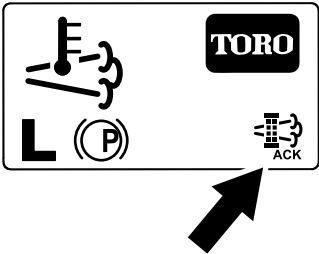

Figure 62
- The InfoCenter displays the home screen and the regeneration acknowledge icon (Figure 62) appears in the lower right corner of the screen as the regeneration processes.